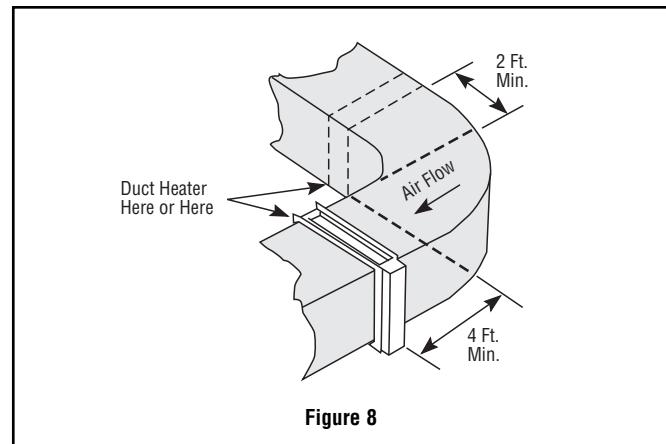

Figure 8
4. Installation near turns. (Refer to Figure 8). If heater must be installed closer than 4 feet from the downstream side of a turn, turning vanes must be installed in the turn. The turning vanes will straighten out the air flow so it will be uniform over the face of the heater.